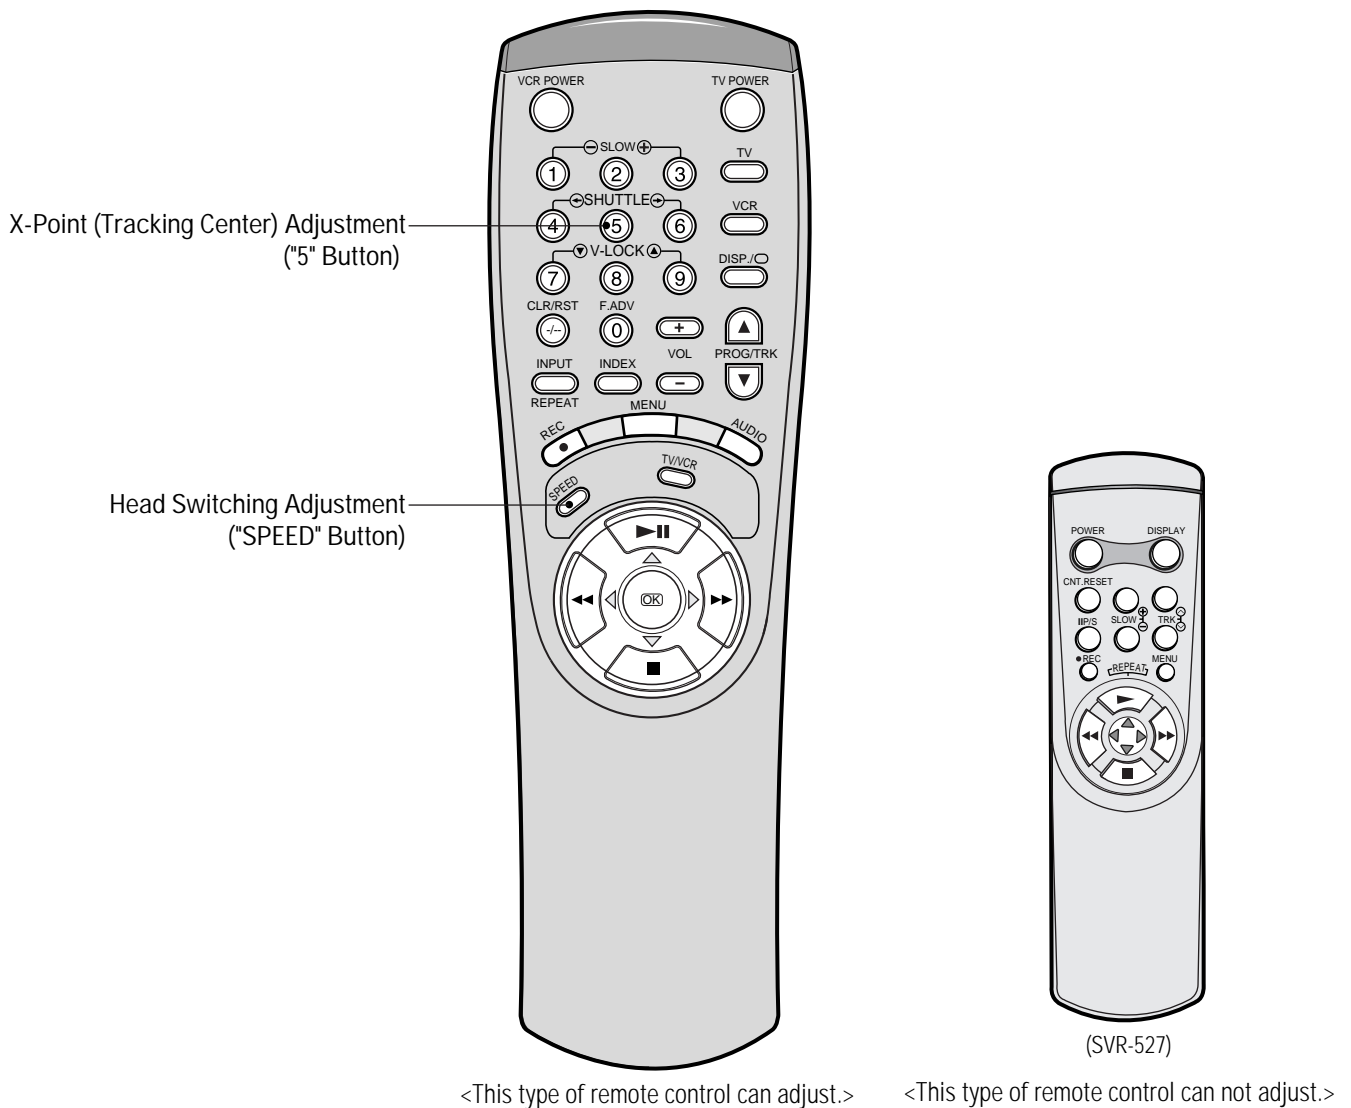

Fig. 2-1
- 3) Press the “5” button of remote control then adjustment is operated automatically. (See Fig. 2-1)
- 3) Press the “SPEED” button of remote control then adjustment is operated automatically. (See Fig. 2-1)